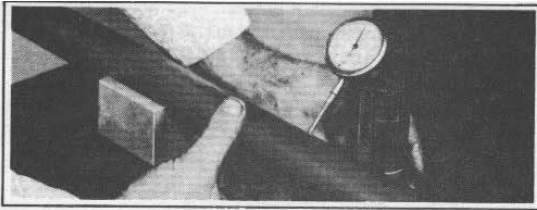
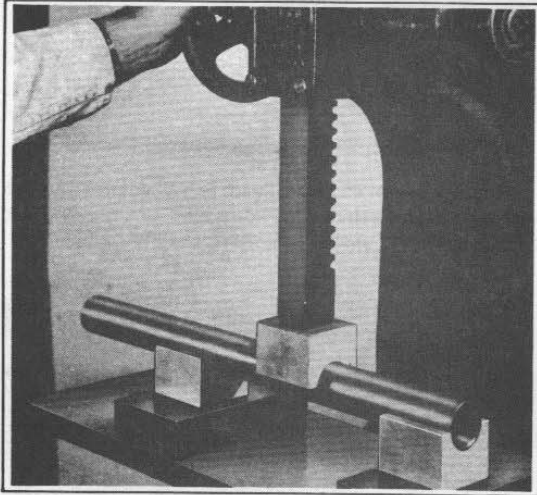

Figure 2-46. Indicating High Point
Figure 2-47. Pressing High Point
2. Find the highest point out-of-round with a dial indicator (Figure 2-46) and mark with chalk. Press high point as shown in Figure 2-47. Repeat indicating and pressing operations until tube is within 0.003 in. to 0.004 in. of being straight.